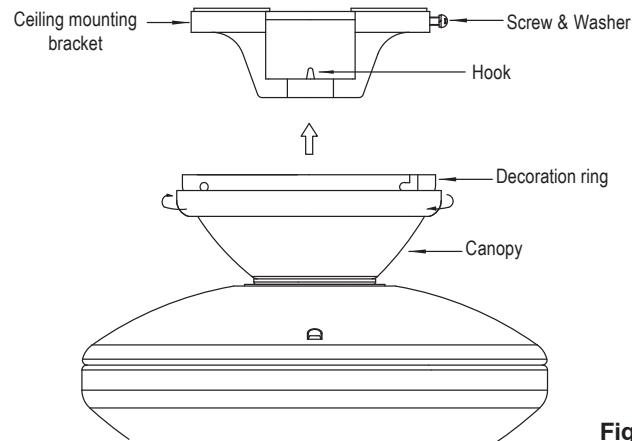

Fig. 14
**Step 2. Motor to Receiver Electrical Connections: (Fig. 14)** Connect the black wire from the fan to the black wire marked "TO MOTOR L" on the receiver. Connect the white wire from the fan to the white wire marked "TO MOTOR N" on the receiver. Connect the blue wire from the fan to the blue wire marked "FOR LIGHT" on the receiver. Secure all the wire connections with the plastic wire nuts provided.
**Step 3. (Fig. 14) Receiver to House Supply Wires Electrical Connections:** Connect the black (hot) wire from the ceiling to the black wire marked "AC in L" from the receiver. Connect the white (neutral) wire from the ceiling to the white wire marked "AC in N" from the receiver. Secure the wire connections with the plastic wire nuts provided.
**Step 4. (Fig. 14)** If your outlet box has a ground wire (green or bare copper) connect it to the fan ground wires; otherwise connect the hanging bracket ground wire to the mounting bracket. Secure the wire connection with a plastic nut (provided). After connecting the wires, spread them apart so that the green and white wires are on one side of the outlet box and black and blue wires are on the other side. Carefully tuck the wire connections up into the outlet box.
**Step 3.** Make sure all four mounting screws are tight. (Fig. 14)